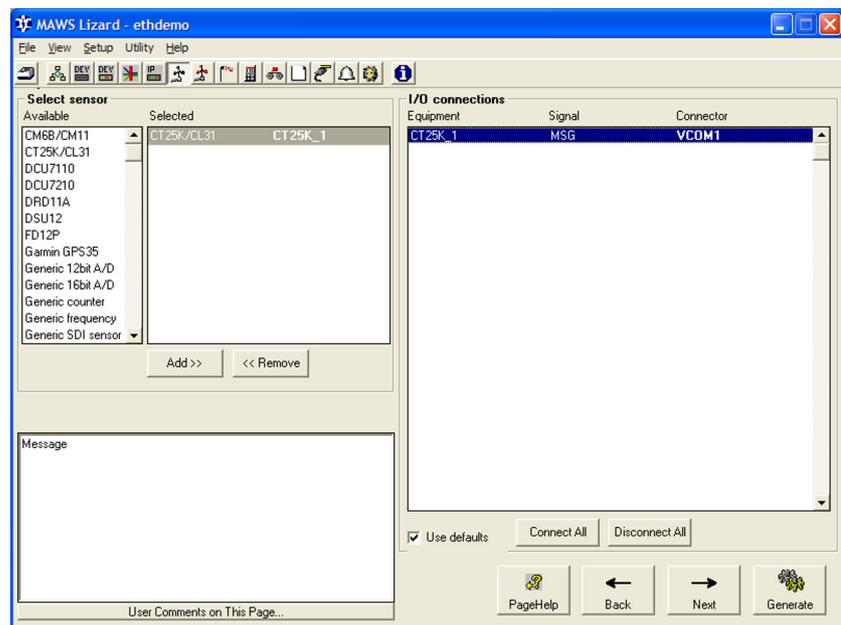

Figure 154 Ceilometer Connected to Virtual COM Port
7. In the **Equipment** view, add a sensor and connect it to the virtual COM port created for the sensor interface. This example uses a ceilometer connected to DXE421 to provide the Ethernet connection. See Figure 154 on page 315.